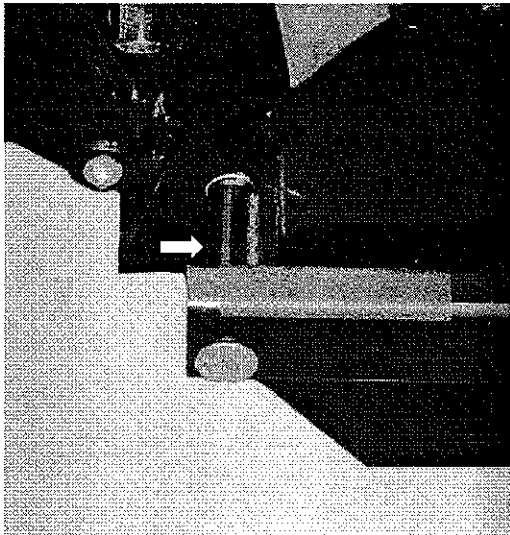

figure 17
- Rear bracket tube zerk (figure 17)